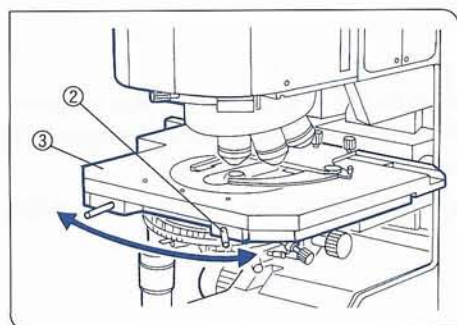

Fig. 16
★ If the direction of stage movement and the direction of image movement differs during observations, loosen the stage clamping screw ② slightly and adjust the stage ③ by rotating it, while observing the image. (Fig. 16)